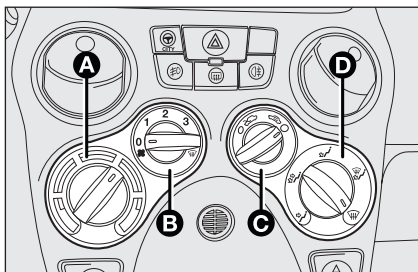

fig. 45
**CONTROLS fig. 45****Air temperature knob A (mixing hot and cold air)**